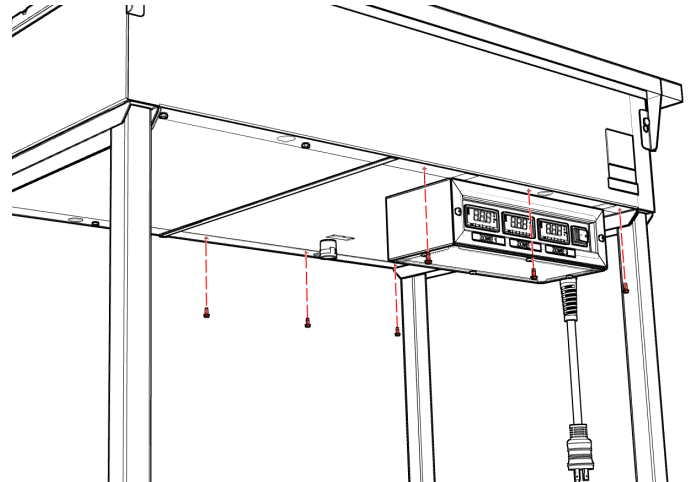

Fig. 7
1. Remove six (6) M4.8 × 13 mm hex head screws from right-hand access panel. Drop panel away from unit to remove (Fig. 7).